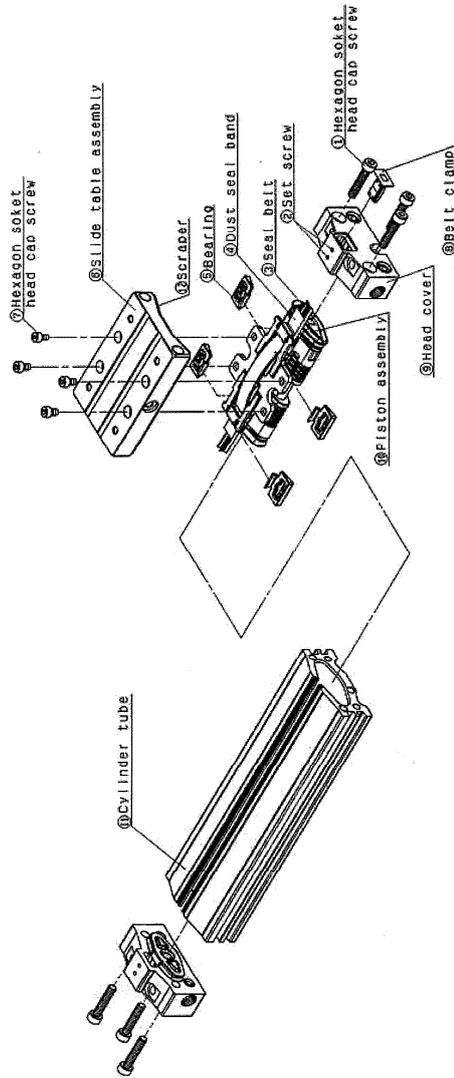

Figure 2
- Put seal belt through piston assembly and assemble it to cylinder tube as shown in Figures 2 and 3.